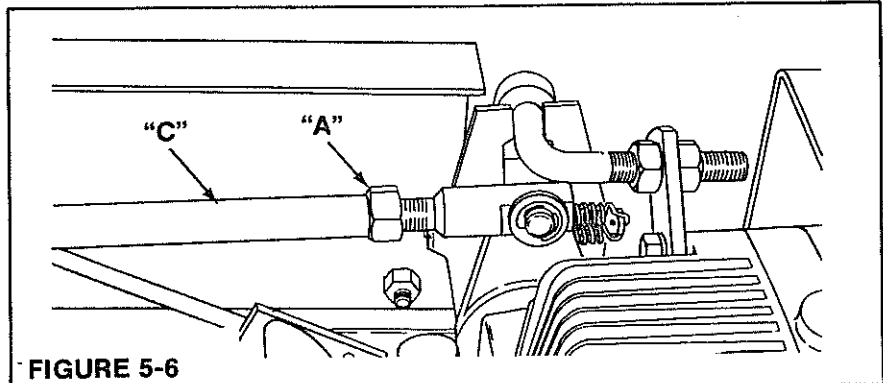

FIGURE 5-6
1. Loosen nut "A" Figure 5-6 or 5-6A.
3. To bring toe of pedal closer to operator, shorten rod "C" Figure 5-6 or 5-6A.
5. After desired adjustment is reached, align hole in pedal end of rod "C" with hole in control arm and secure with pin "B" or rod "D" and cotter pin. Lock hex nut "A" Figure 5-6 or 5-6A.